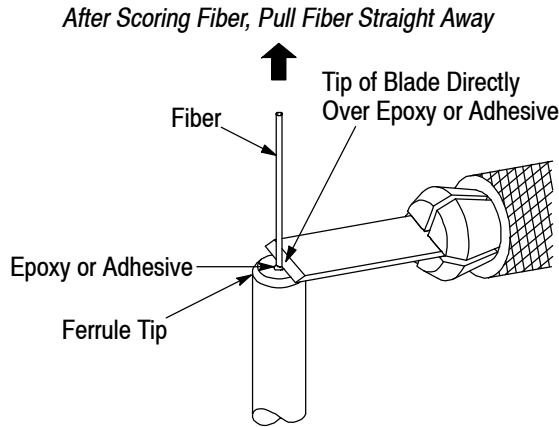

Figure 12
3. Place the blade of the scribe tool directly above the epoxy or adhesive. DO NOT allow the blade to make contact with the epoxy or adhesive. Refer to Figure 12.